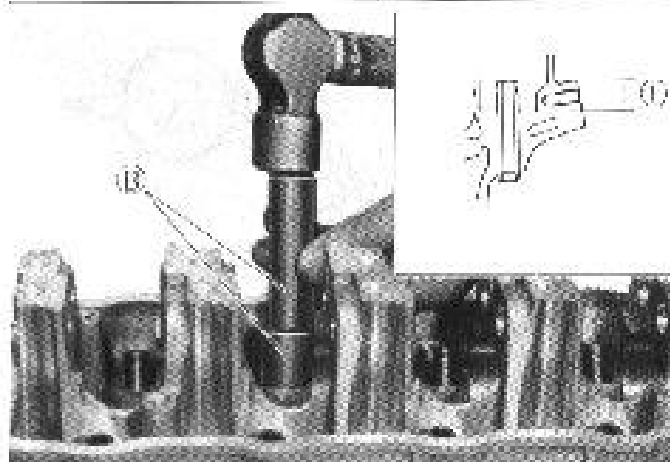

Fig. 3-60
- 2) Heat the cylinder head uniformly to anywhere between 80°C and 100°C (176°F-212°F) so that the head will not distort, and drive the oversize guide into the hole with the valve guide installer set Ⓑ (09916-57310 and 09916-57320). See Fig. 3-60. Be sure to carry out this step speedily so that all guides will go into the cylinder head in steady temperature state.